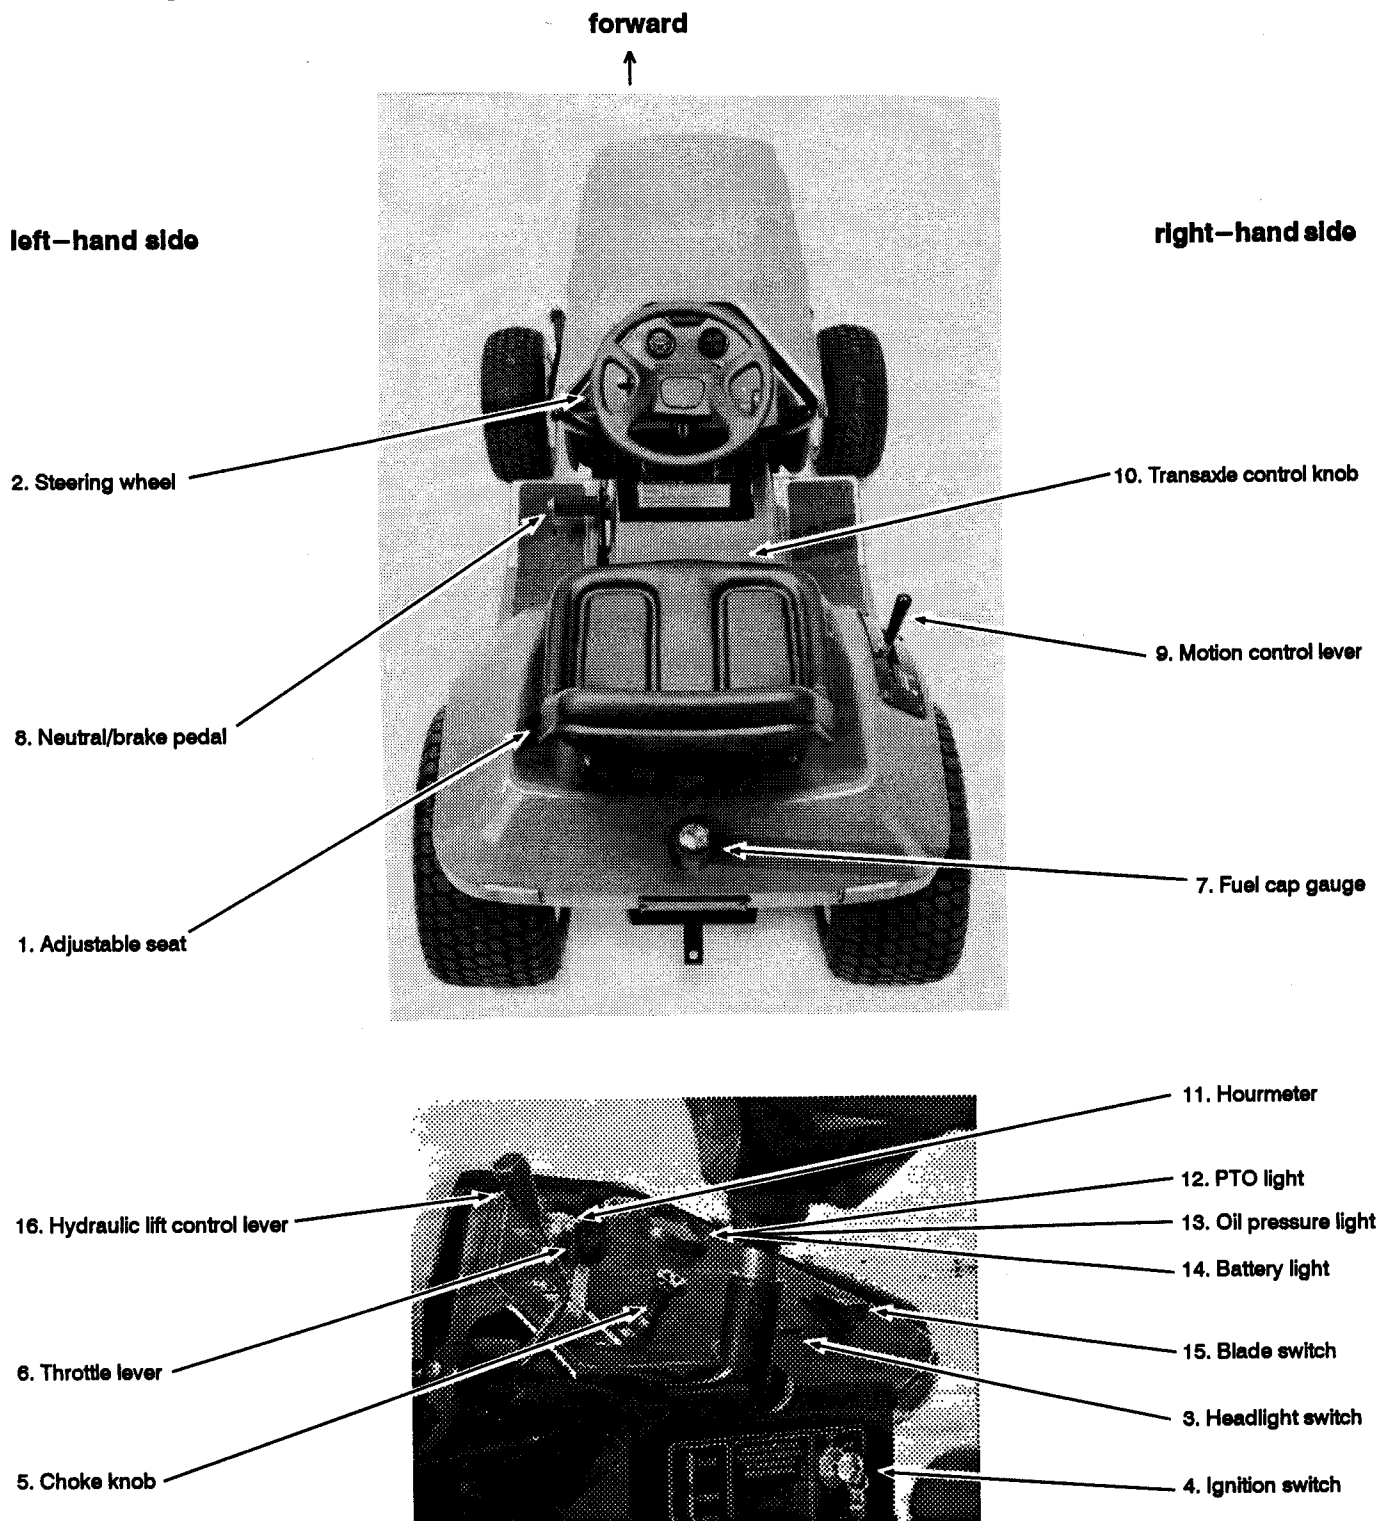

Figure 2. Operator controls.
Tractor controls and gauges are shown in Figures 2 through 8 and described as follows. Locate these controls on your tractor and know how to use them before operating the tractor.
1. **ADJUSTABLE SEAT** – moves forward or back, up to 3" (Refer to Figure 2).
2. **STEERING WHEEL** – controls the front wheels of the tractor for steering (Refer to Figure 2).
3. **HEADLIGHT SWITCH** – controls the tractor's headlights (Refer to Figure 2).
4. **IGNITION SWITCH** – starts and stops the engine. This is a 3-position, key-actuated switch (Refer to Figures 2 & 3).
5. **CHOKE KNOB** – provides richer fuel-air mixture in the engine's carburetor for cold starting (Refer to Figure 2).
6. **THROTTLE LEVER** – controls the engine speed (Refer to Figure 2).
7. **FUEL CAP and GAUGE** – shows fuel level and unscrews for dispensing of fuel into tank. (Refer to Figures 2 & 4). Use only unleaded, minimum octane 87 gasoline. Always ensure that the small fuel cap breather hole is not clogged.
8. **NEUTRAL/BRAKE PEDAL** – puts the transmission (and motion control lever) in neutral and serves as a brake and parking brake latch (Refer to Figures 2 & 5).
9. **MOTION CONTROL LEVER** – hand operated to control the direction (forward/reverse) and speed of the tractor (works in conjunction with the transaxle Hi/Lo range control knob) (Refer to Figures 2 & 6).
10. **TRANSAXLE CONTROL KNOB** – hand operated to control the gear ratio of the transaxle and the ground speed of the tractor, in conjunction with the motion control lever (Refer to Figures 2 & 6).
11. **HOURLMETER** – tells number of hours the tractor has operated. (Refer to Figures 2 & 7). It runs when ignition switch is “ON”. Do not leave ignition “ON” when engine is not running. Use hourmeter as a guide for when to do scheduled maintenance.
12. **PTO LIGHT** – illuminates when electric clutch / power take off (PTO) is engaged. (Refer to Figures 2 & 7).
13. **OIL PRESSURE LIGHT** – signals low oil pressure when lit. (Refer to Figures 2 & 7). It illuminates momentarily when the ignition switch is “ON”, but the engine is not running (e.g., during starting sequence).
14. **BATTERY LIGHT** – illuminates when battery is discharging. (Refer to Figures 2 & 7). It lights momentarily during starting sequence. It should be off when the engine is running above idle. If not, shut engine off and refer to “Troubleshooting” on page 14 in this manual to find the source of the problem.
15. BLADE SWITCH – starts and stops the electric clutch for the optional power take off (PTO). (Refer to Figures 2 & 8). The electric clutch drives all rotary implements.
16. HYDRAULIC LIFT CONTROL LEVER – controls all attachments. It is linked to a hydraulic control valve. (Refer to Figures 2 & 8).